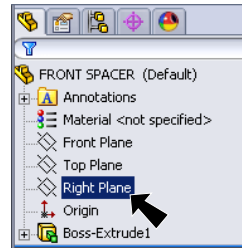

Fig. 6
Step 1. Click **Right Plane**  in the Feature Manager to select Plane, **Fig. 6**.